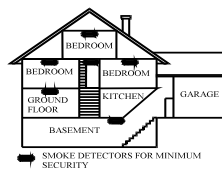

Figure 3:
- Install a smoke alarm on every floor of a multi-floor home or apartment, as shown in Figure 3.